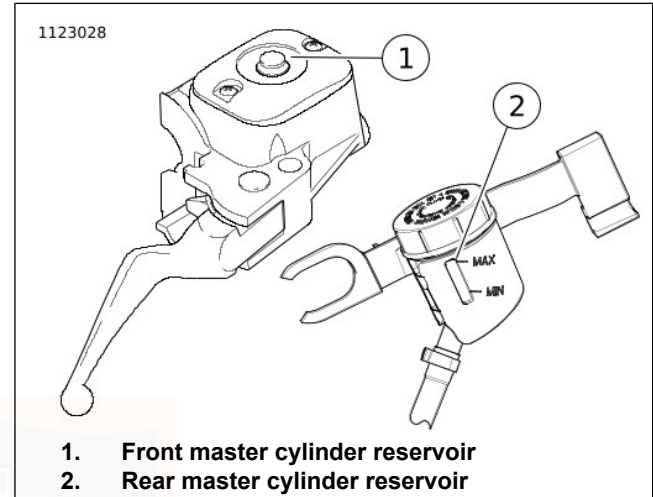
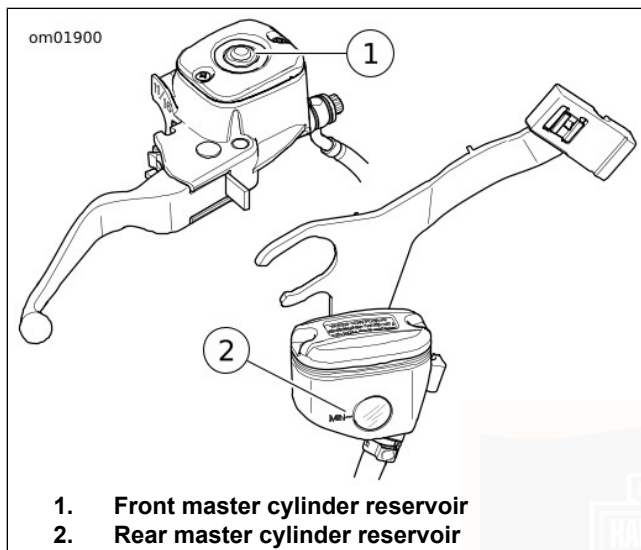

Figure 61. Brake Fluid Sight Glass: FLHTCUTG
Figure 62. Brake Fluid Sight Glass: FLRT
1. See Figure 61 and Figure 62. Check fluid level in brake master cylinder reservoir. Place vehicle on a flat level surface. Turn handlebar so master cylinder is level.